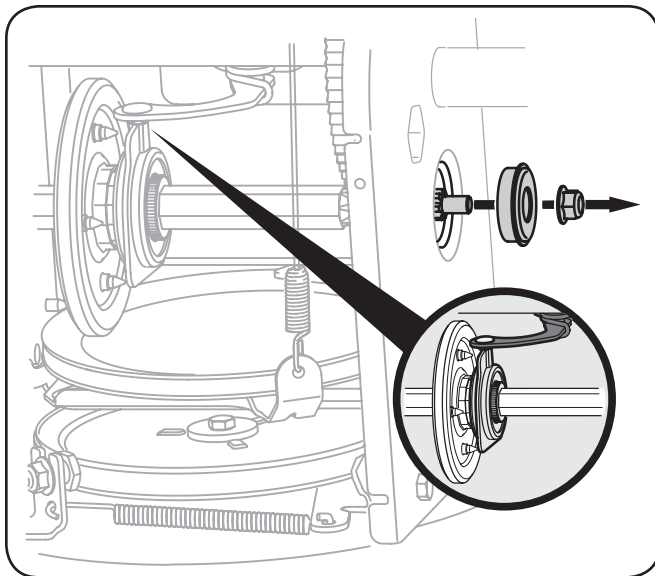

Figure 7-7
- Carefully remove the hex nut which secures the hex shaft to the snow thrower frame and lightly tap the shaft's end to dislodge the ball bearing from the right side of the frame. See Figure 7-7.
NOTE: Make sure the shift lever pin is in place in the bearing housing. See Figure 7-7 inset.